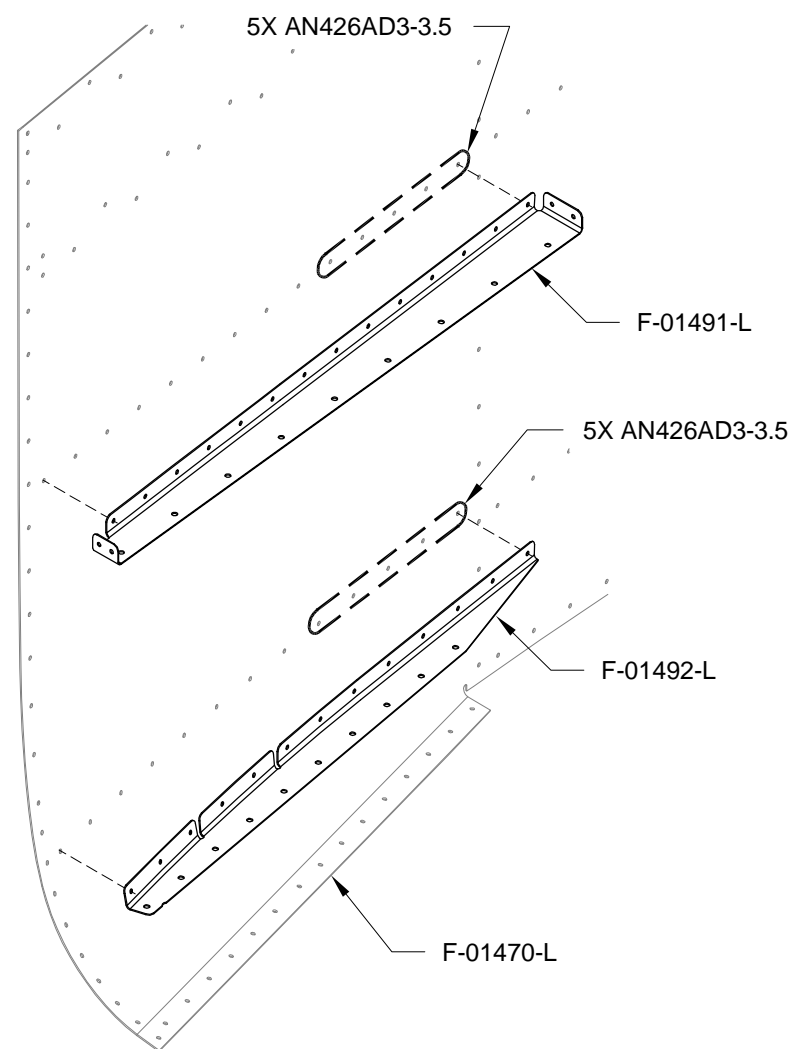

FIGURE 1: FUSELAGE SIDE RIB INSTALLATION
Step 2: Rivet the fuselage side ribs to the side skin as shown in Figure 1.